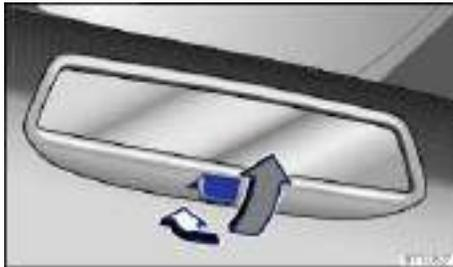

Fig. 92 Manually adjustable inside mirror.
- To adjust to non-glare visibility, move the lever so that it points backward ⇒ fig. 92.